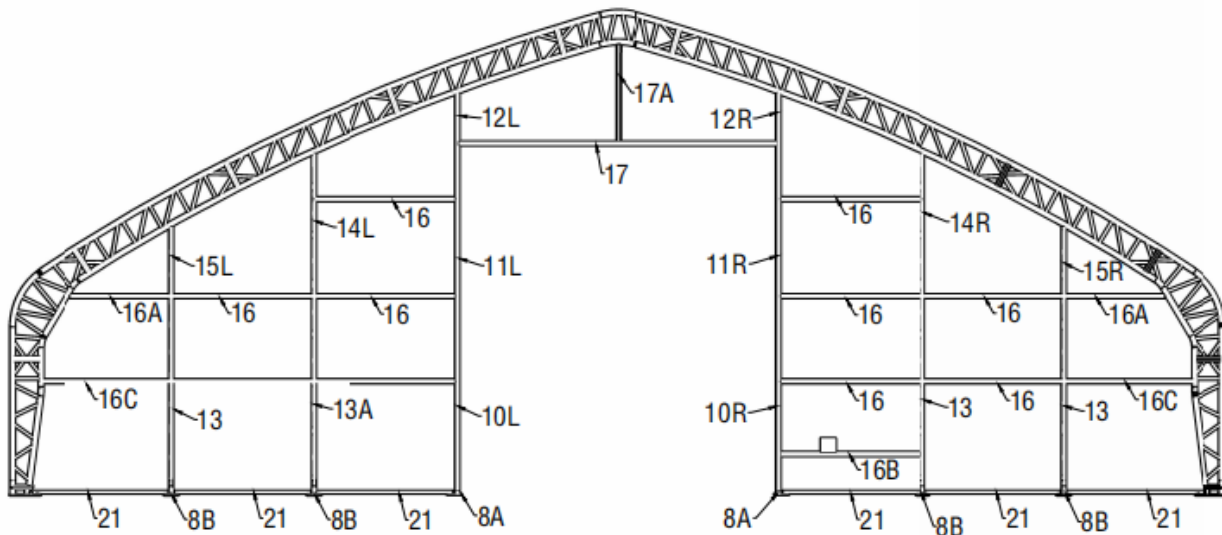

Figure 7
1. Find the right parts to install the front and back panels frame firstly according to the above Figure 7&8.